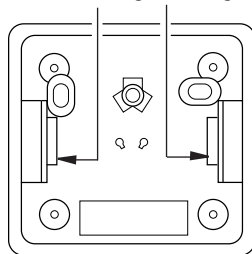

Figure 24 - Back View of Thermostat Base
6. Feed the electrical wires through the rectangular slots on each side of the base (see Figure 24).